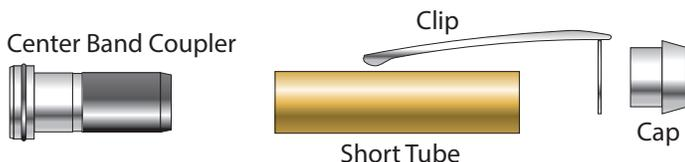

Figure 1
1. Press the end cap coupler into the smaller end of the long tube, then screw the end cap onto the end cap coupler. See figure 1 for Threaded End Cap assembly.